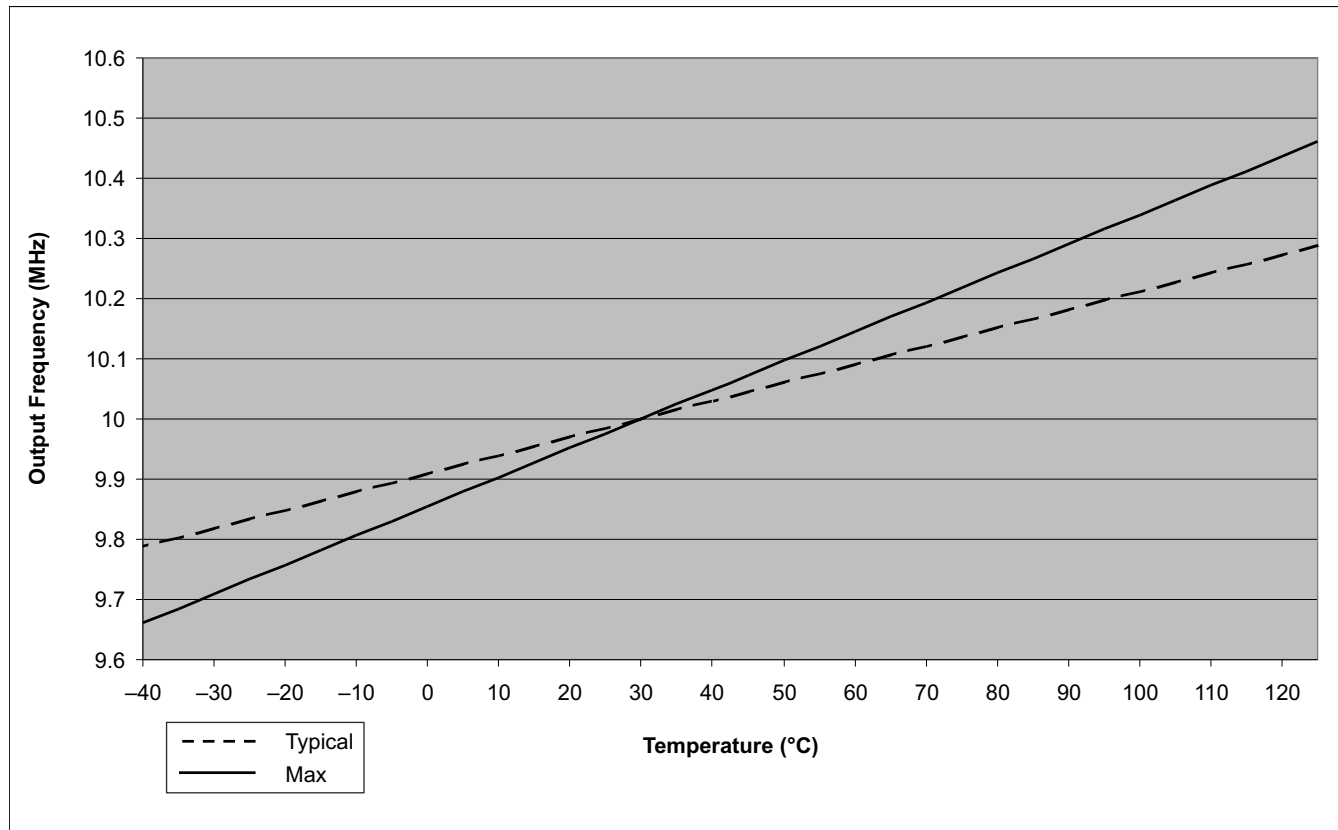

图 7-8. Zero-Pin Oscillator Frequency Movement With Temperature
- (1) Oscillator frequency will vary over temperature, see Figure 7-8. To compensate for oscillator temperature drift, see the Oscillator Compensation Guide and C2000Ware.
- (2) Frequency range ensured only when VREG is enabled, $\overline{VREGENZ} = V_{SS}$.
- (3) Output frequency of the internal oscillators follows the direction of both the temperature gradient and voltage (V_{DD}) gradient. For example: